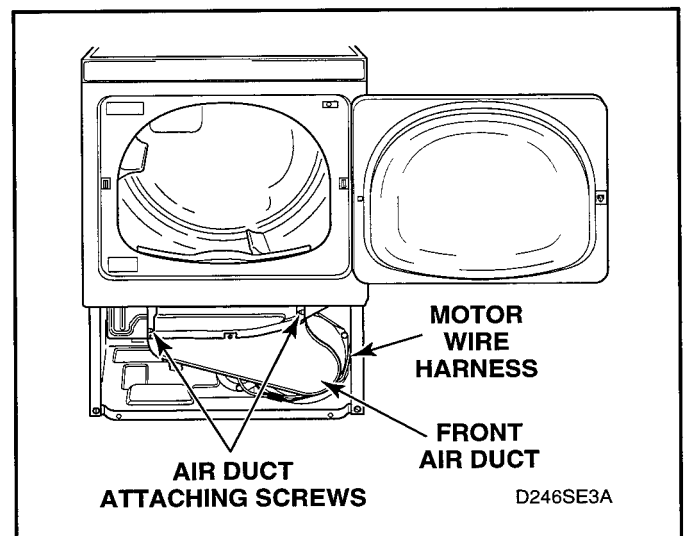
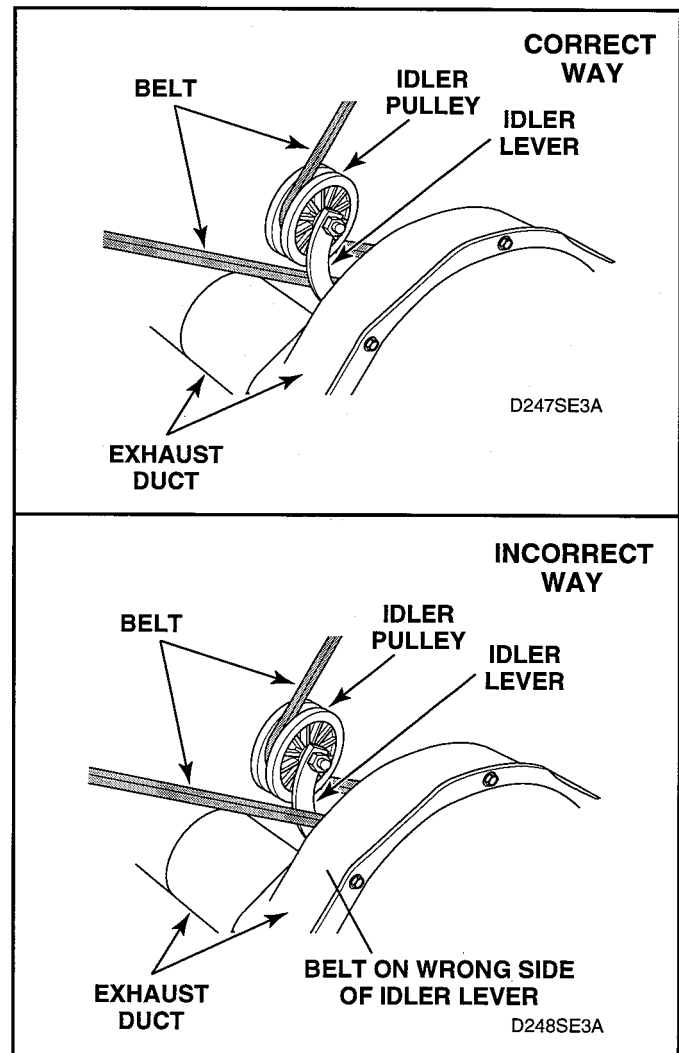

Figure 5-13
Figure 5-15
- Remove two screws holding duct to front bulkhead and remove air duct. See figure 5-13.
- Remove screws holding air duct to front bulkhead and remove air duct. See figure 5-13.
- Remove cylinder belt from idler and motor pulleys. See figure 5-15.
IMPORTANT: When reinstalling motor and exhaust assembly, be sure wire harness on right side is clipped to motor mounting bracket and is routed along dryer base (between motor mounting bracket and right side of cabinet). See figure 5-13. Tab on rear of motor mounting bracket must be slid into slot in dryer base. Be sure the belt has been installed on the correct side of the idler lever. See figure 5-15.